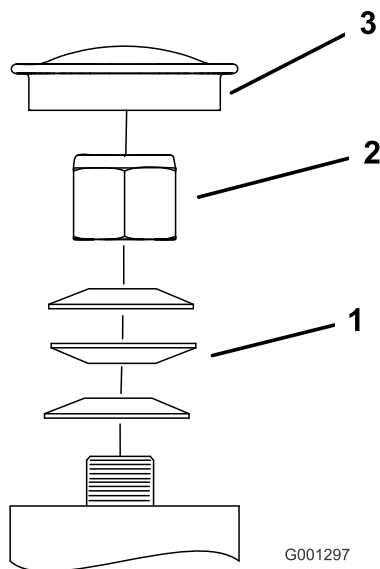

Figure 59
3. Remove the dust cap from the caster and tighten the locknut (Figure 59).
4. Tighten the locknut until the spring washers are flat, then back off a 1/4 turn to properly set the pre-load on the bearings (Figure 59).
Important: Make sure that the spring washers are installed correctly as shown in Figure 59.
5. Install the dust cap (Figure 59).